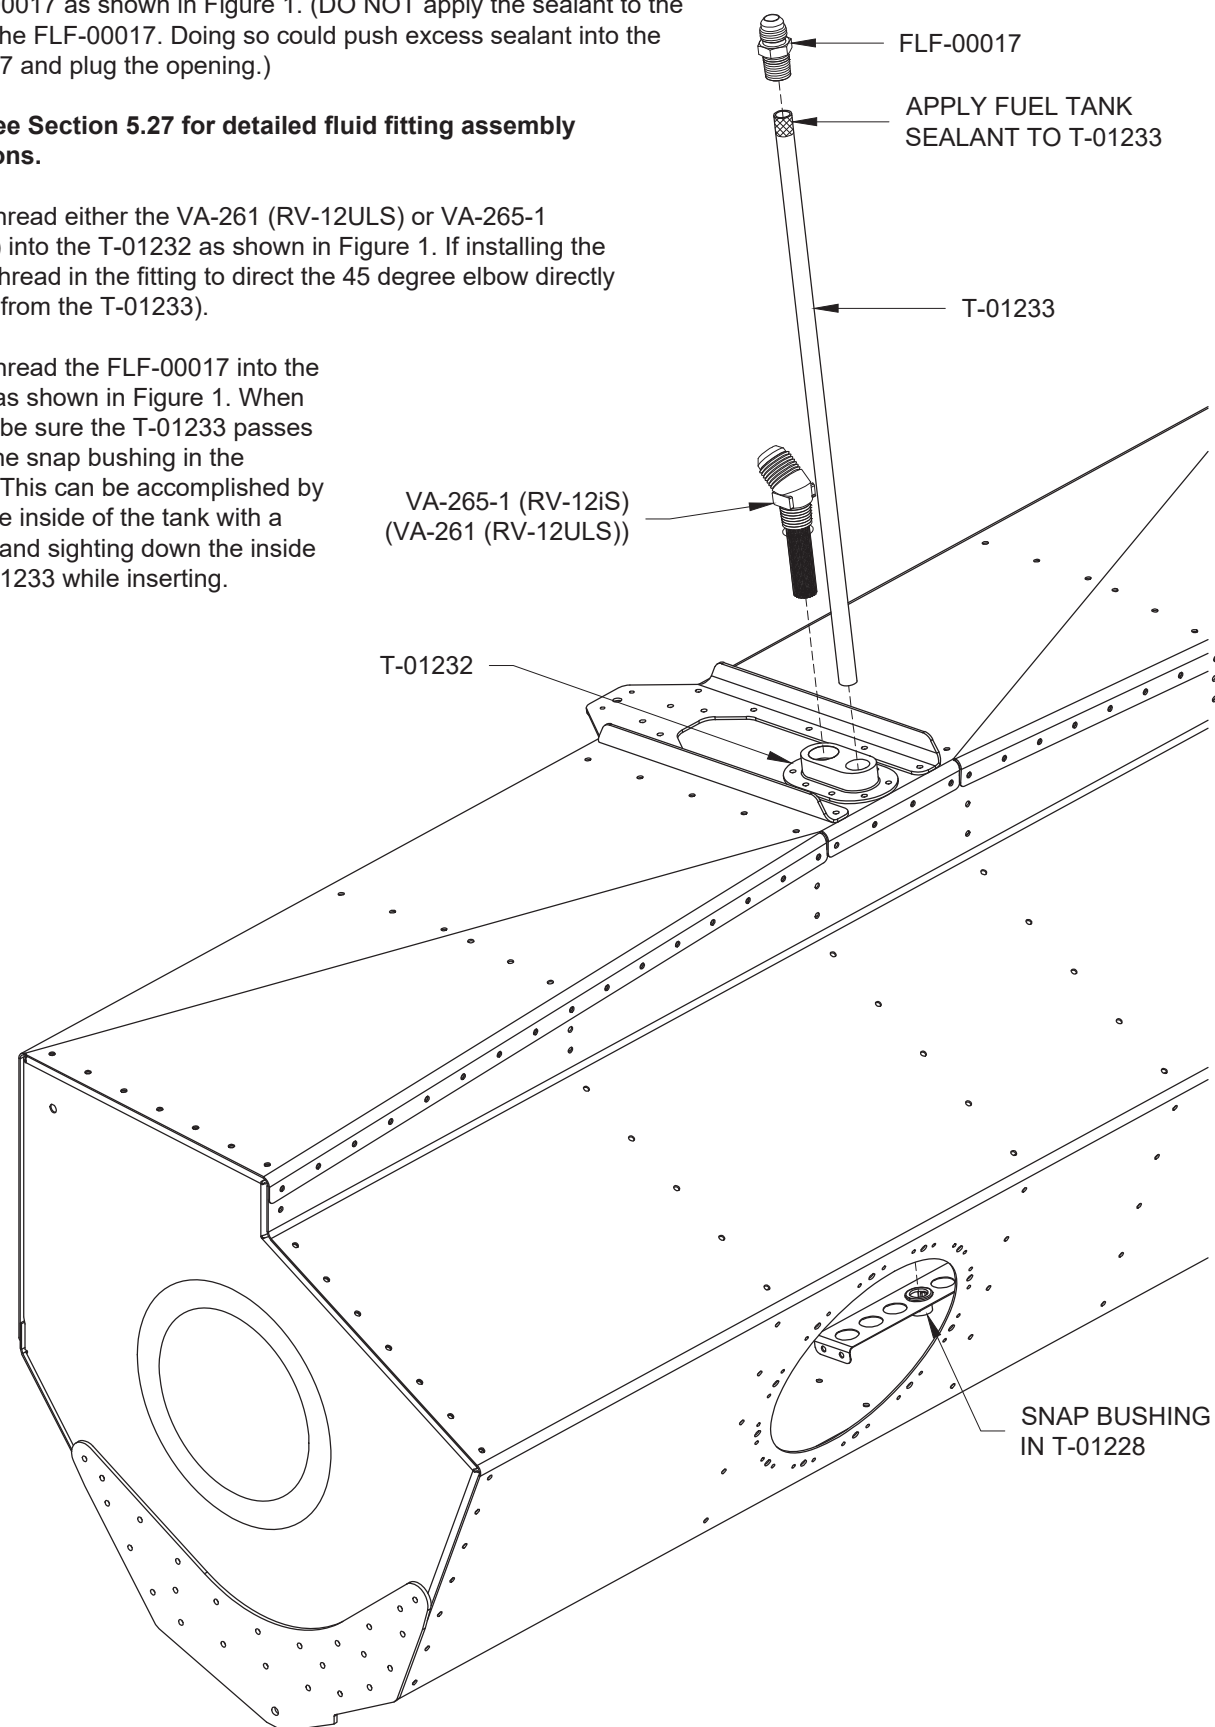

FIGURE 1: SUPPLY/RETURN FITTING INSTALLATION
Step 2: Apply sealant around the outside of the T-01233 and insert it into the FLF-00017 as shown in Figure 1. (DO NOT apply the sealant to the inside of the FLF-00017. Doing so could push excess sealant into the FLF-00017 and plug the opening.)
Step 3: Thread either the VA-261 (RV-12ULS) or VA-265-1 (RV-12iS) into the T-01232 as shown in Figure 1. If installing the VA-265, thread in the fitting to direct the 45 degree elbow directly aft (away from the T-01233).
Step 4: Thread the FLF-00017 into the T-01232 as shown in Figure 1. When inserting, be sure the T-01233 passes through the snap bushing in the T-01228. This can be accomplished by lighting the inside of the tank with a flashlight and sighting down the inside of the T-01233 while inserting.